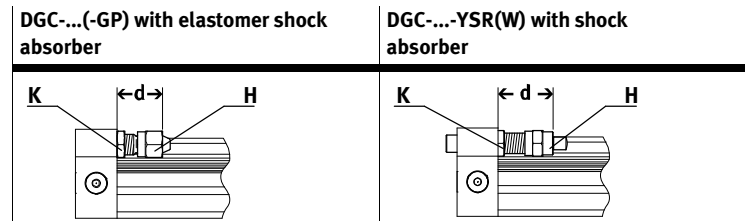

Fig. 21
- For reasons of stability, distance **d** from Fig. 21 must not exceed the values in the following table: